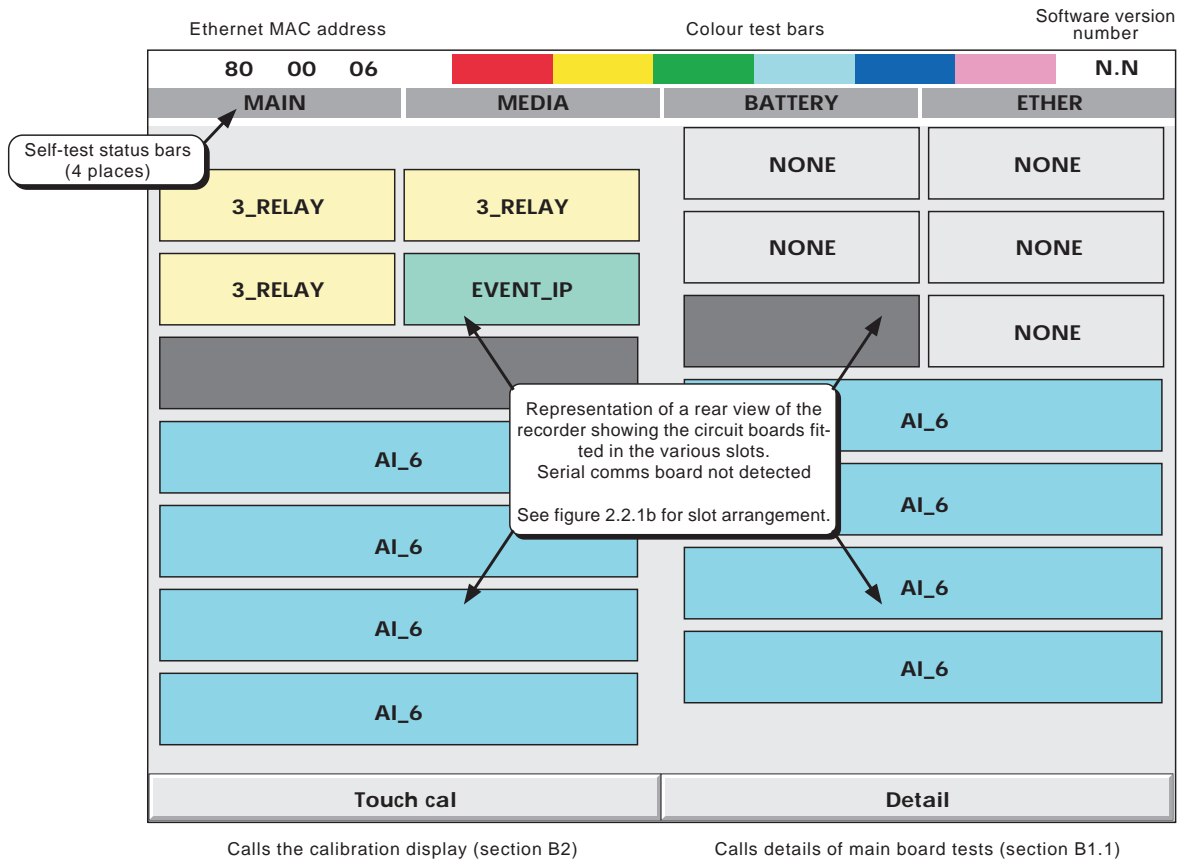
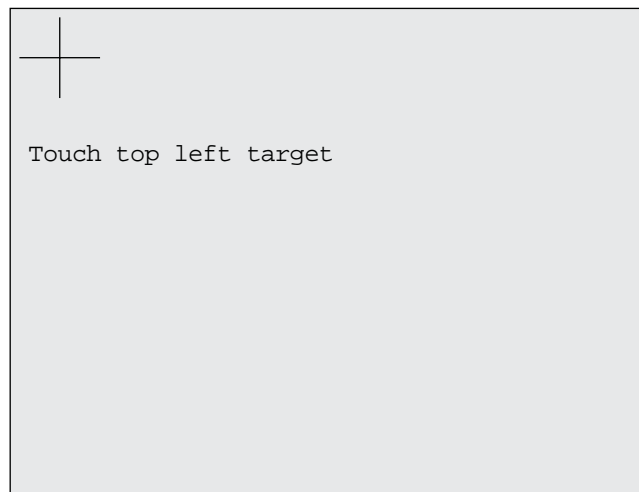

Figure B1a Top-level diagnostic display for large frame product
Figure B2 Initial calibration display
At power-up, continuously hold a finger in contact with the screen until (after approximately 30 seconds) the diagnostic display appears as shown in figure B1a for large frame products and B1b for small frame products. If no further action takes place within approximately five minutes, the display times-out to the calibration display described in section B2, below.
1. At power-up, continuously hold a finger in contact with the screen until (after approximately 30 seconds) the diagnostic display appears as shown in figures B1a/b. Operate the Touch cal key to call the first calibration screen, as depicted in figure B2